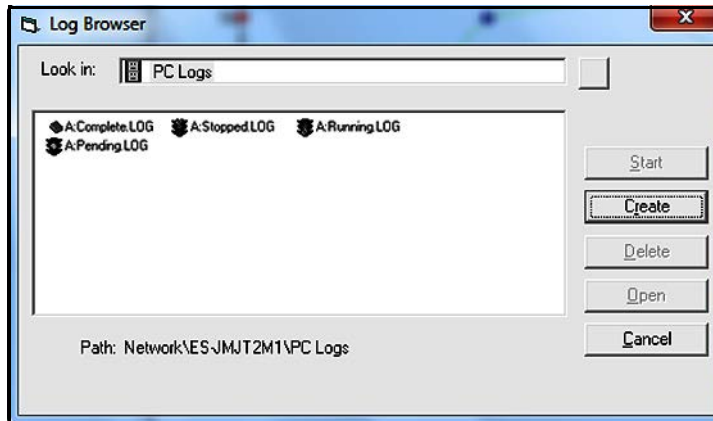

Figure 75: Selecting a Log File
2. Advance to either the “PC Logs” or “Meter Logs” dialog box as described in previous sections. Using a meter log as an example, a screen similar to that shown in *Figure 75* below opens.
Note that each of the log files in *Figure 75* above has a traffic light icon or a book icon next to its name. These icons indicate the current status of the log as follows:
- **Book** - The log has run to its specified stop time and is complete (see **A:Complete.LOG** in *Figure 75* above).
- **Red Light** - The log has not run to its specified stop time but has been manually stopped (see **A:Stopped.LOG** in *Figure 75* above).
- **Yellow Light** - The log has been set up but the specified start time has not yet been reached (see **A:Pending.LOG** in *Figure 75* above).
- **Green Light** - The log is currently running but is not yet complete (see **A:Running.LOG** in *Figure 75* above).